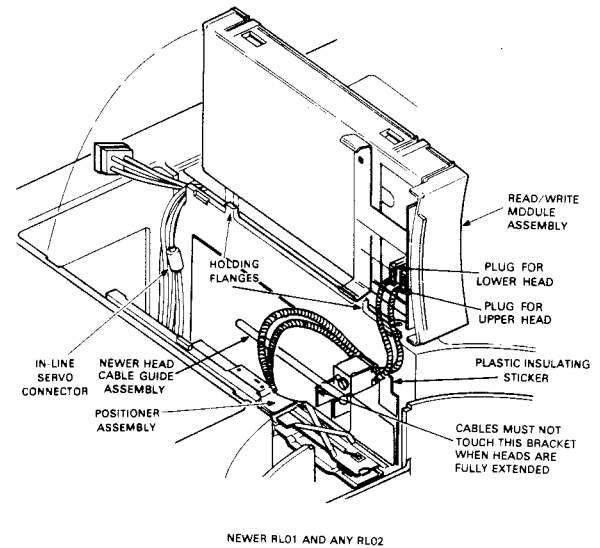

Figure 9-6 Adjusting the Head Cables
13. Ensure that the cables do not touch the corner of the cable guide bracket (as shown in Figure 9-6). If they do, readjust the cables in the clips so that they do not touch the corner of the bracket.